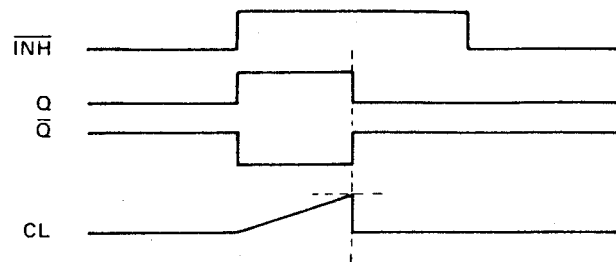

Fig. 8 FF1 one-shot waveform
When the voltage of CLEAR (CL) goes up gradually by a CR time constant and the voltage of pin CL reaches the threshold, FF1 is reset and Q becomes "L". (See Fig. 8.)